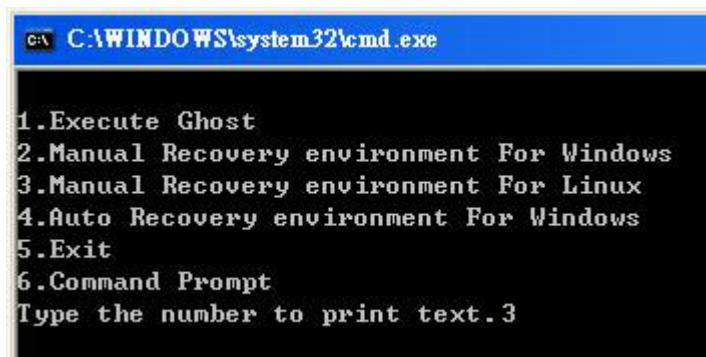

Figure B-32: System Configuration for Linux
Step 5: Build-up recovery partition. Press any key to boot from the recovery CD. It will take a while to launch the recovery tool. Please be patient. When the recovery tool setup menu appears, type <3> and press <Enter> (**Figure B-32**). The